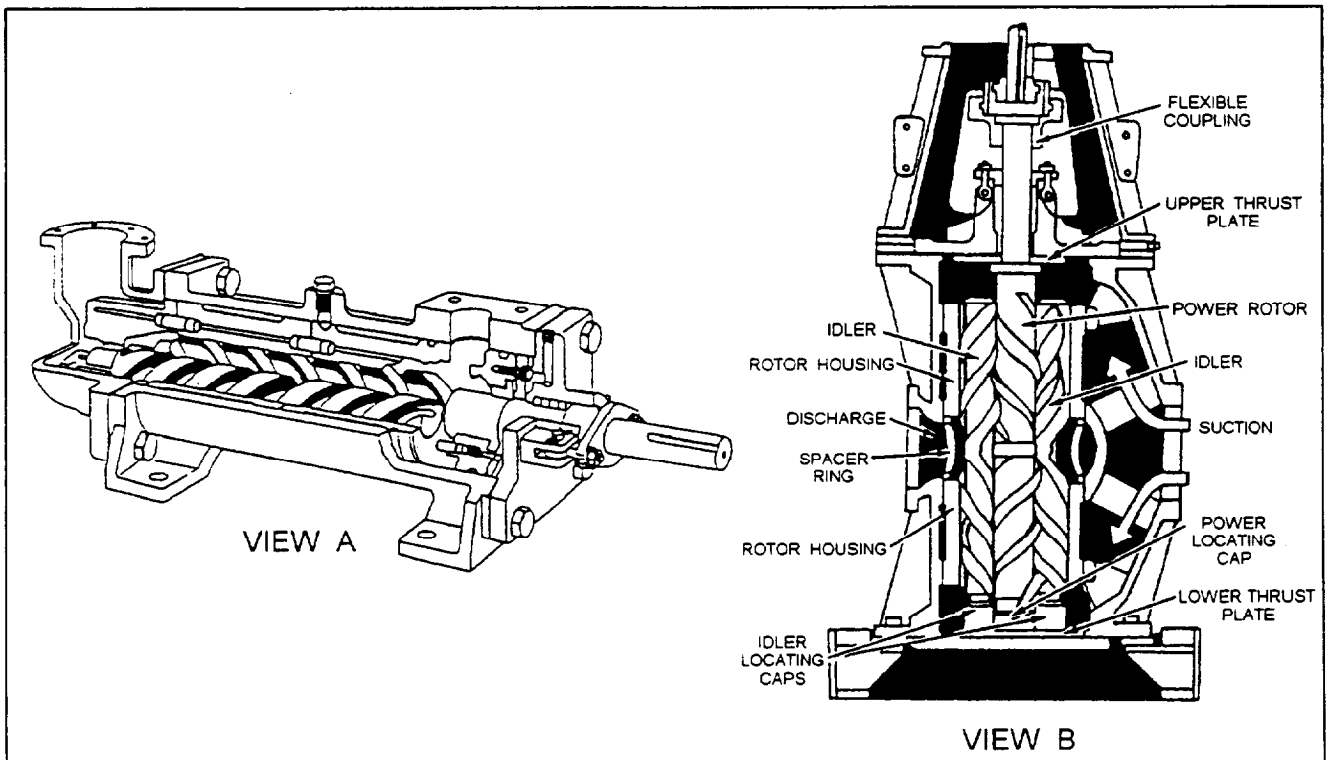
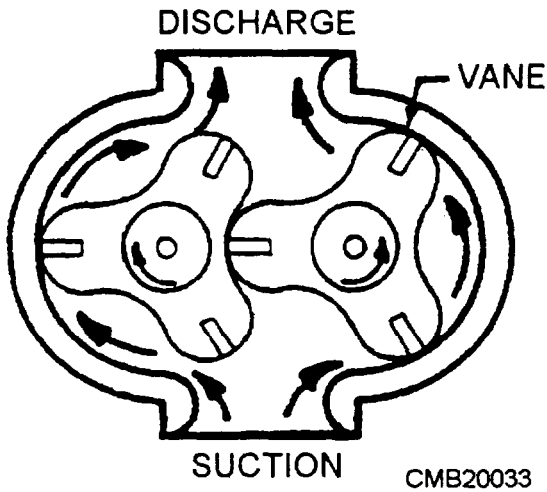
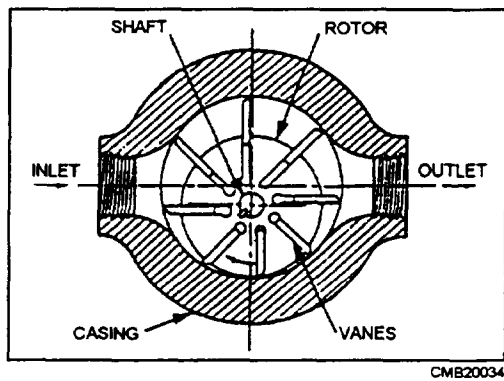

Figure 3-10.—Screw pump.
Figure 3-11.—Lobe pump.
Figure 3-12.—Vane pump.
**ROTARY PUMPS.**—All rotary pumps have rotating parts that trap the fluid at the inlet (suction) port and force it through the discharge port into the system. Gears (figs. 3-7, 3-8, and 3-9), screws (fig. 3-10), lobes (fig. 3-11), and vanes (fig. 3-12) are commonly used to move the fluid. Rotary pumps are positive displacement of the fixed displacement type.